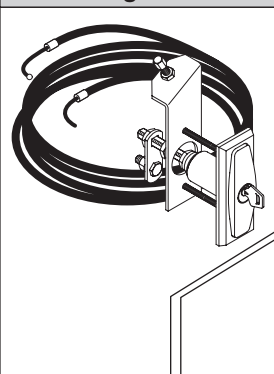

Fig. 24
- ST** Automatic bolt release device for spring-operated overhead doors. Fitted to the control arm, it automatically releases the side door bolts (fig.24).